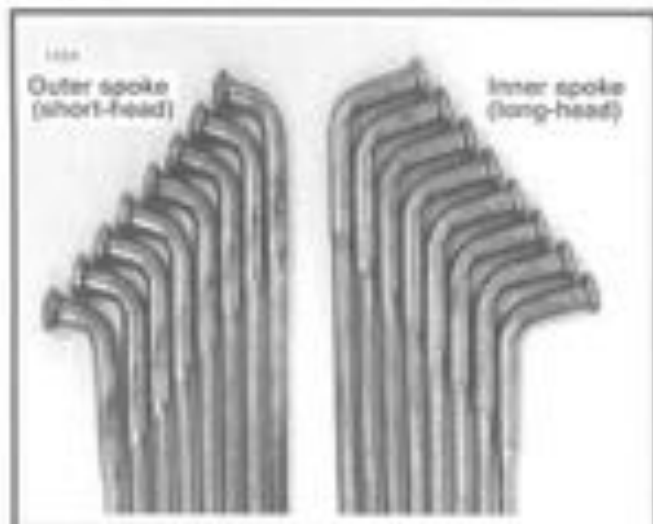

Figure 2-23. Spoke Identification
1. See Figure 2-23. Divide spokes into two groups. Inner spokes have long heads; outer spokes have short heads. There are also fine- and coarse-threaded spokes and nipples. Match up fine-threaded spokes with fine-threaded nipples, and coarse-threaded spokes with coarse-threaded nipples. Do not intermix the thread patterns.